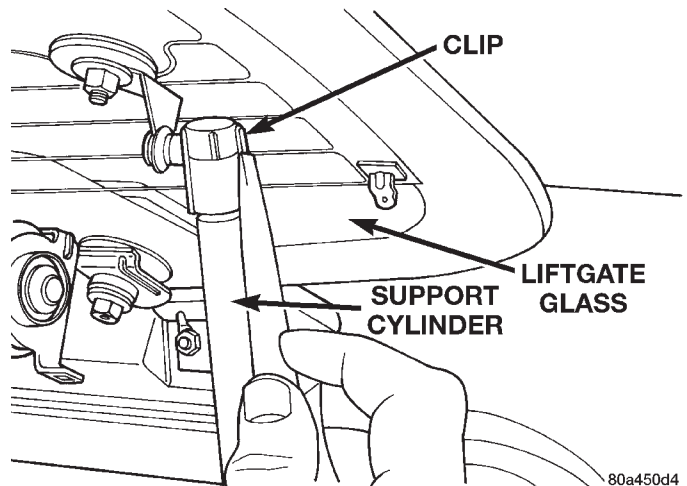

Fig. 74 Support Rod Cylinder
- (1) Open and support the liftgate glass.
- (2) Remove the support rod cylinder retaining clips at both ends of each support rod cylinder (Fig. 74).